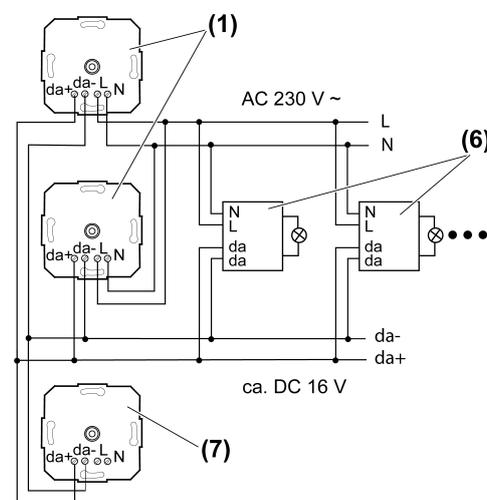

Figure 2
- (1) DALI potentiometer "Active mode"
- (6) DALI subscriber e. g. DALI electrical ballast
- (7) DALI potentiometer without connection of mains voltage "Passive mode"
- Connect the DALI potentiometer and DALI electrical ballast according to the wiring example (Figure 2). In so doing, observe the data of the electrical ballast manufacturer.